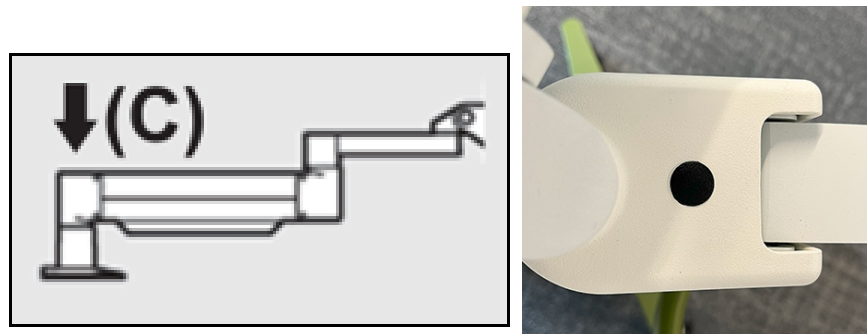

Figure 4-7. Set Arm Tension with Strength Adjustment Screw C
- Set the arm tension with the Strength Adjustment Screw C. Use a 7/32 Allen Wrench and turn the Screw C counter clockwise until the arm just begins to move slowly upward. There should be a slight bounce-back when the arm is lightly tapped down after adjustment. See Figure 4-7.